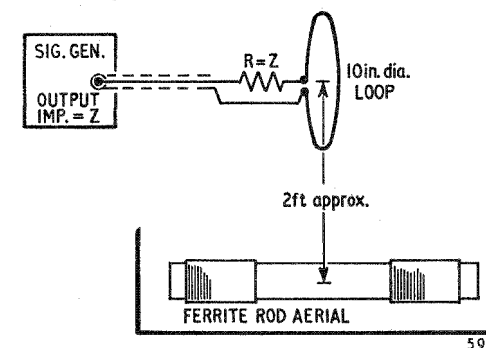

Fig. 1. Signal Generator coupling.
- (d) Loop aerial (a loop of insulated wire, see Fig. 1).
(b) The output from the signal generator should be coupled by a 10 in. diameter loop of wire in series with a resistor of a value to match the output impedance of the generator. The loop should be placed about two feet from the receiver with its plane at right angles to the ferrite rod aerial. See Fig. 1.